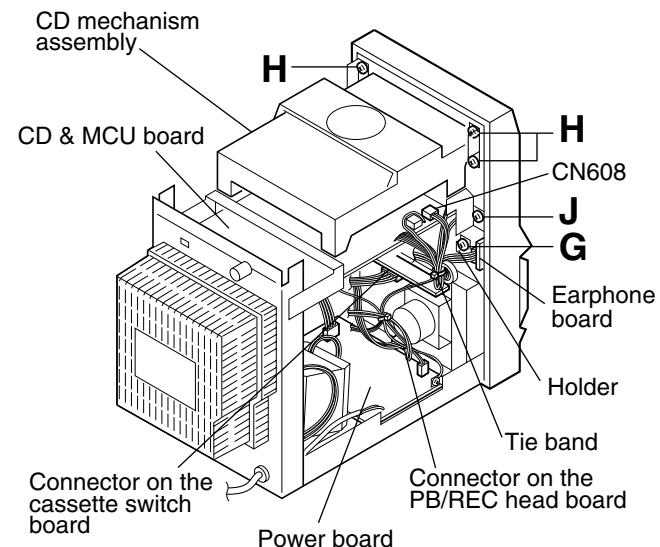

Fig.10
(See Figs. 10 to 12.)
1. From the left side of the main body, remove the tie band bundling the wires. (See Fig.10.)
2. Disconnect the wire from the connector on the cassette switch board. (See Fig.10.)
3. Remove the screw **G** retaining the holder on the earphone board. (See Fig.10.)
4. Disconnect the wires from the two connectors CN607 and CN608 on the CD & MCU board. (See Figs.10 and 11.)
5. Remove the four screws **H** and the two screws **J** retaining the CD mechanism assembly from the left and right. (See Figs.10 and 11.)
8. Disconnect the wire from the connector on the PB/REC head board, and then remove the front cabinet assembly. (See Fig.10.)